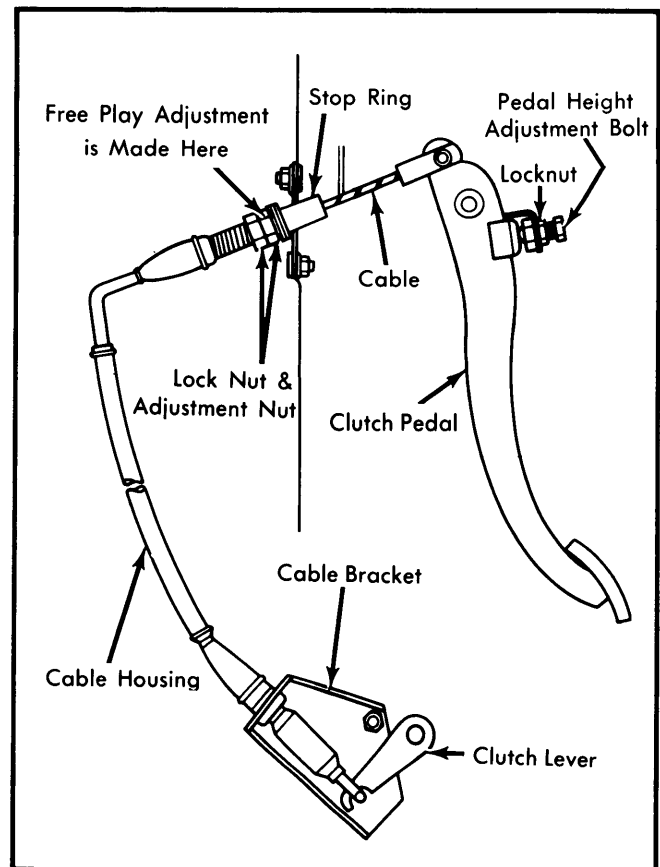

Fig. 2 Installed View of Clutch Cable with Detail of Items to Disconnect for Cable Removal. Illustration Also Shows Pedal Height Location.
2) Push cable through stop ring into engine compartment. Disconnect cable at clutch lever. See Fig. 2. Remove retainer ring at bracket. Pull cable housing from bracket and remove.
Loosen lock nut (*Fig. 2*) and turn adjusting bolt until pedal height is approximately 7.48" (190 mm). Tighten lock nut. Check clutch pedal free play.